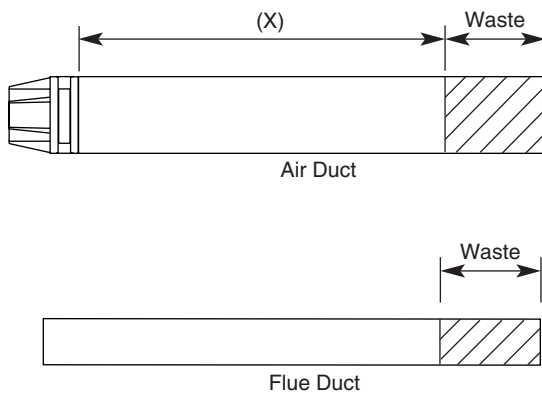

Fig. 19
4. Taking the air duct, mark dimension 'X' as shown (Fig. 19). Measure the length of waste material, and transfer the dimension to the flue duct (Fig. 19).